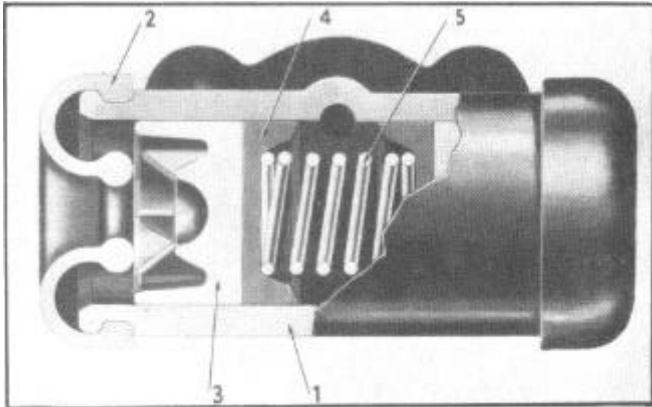

Figure 6--Wheel Cylinder
1. Remove end guards (2) Figure 6.
2. Remove pistons (3).
3. Remove piston cups (4).
4. Remove piston cup spring (5).
4. Assemble as shown in Figure 6.